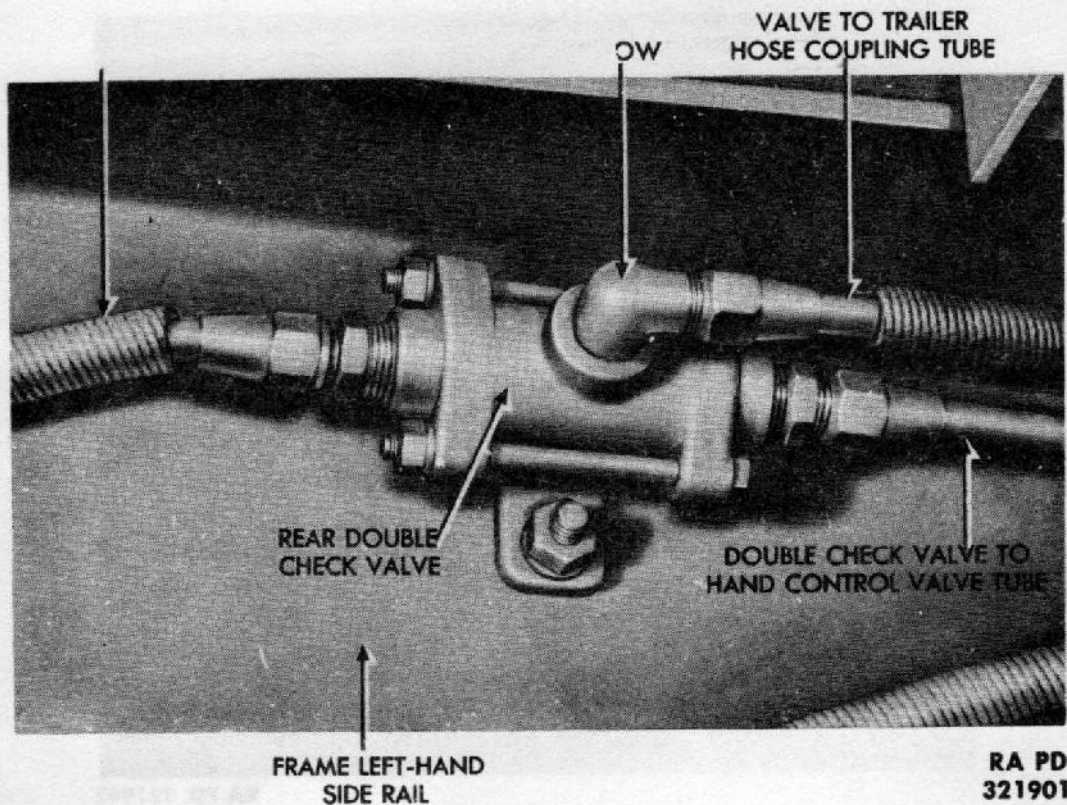

Figure 110 — Rear Double Check Valve
(1) **DESCRIPTION** (fig. 110). Two double check valves are attached to left-hand frame side rail, opposite transmission and transfer case respectively. These valves consist of a free-moving piston in a cylinder. The cylinder opens into the tube fittings at each end and at the center. When the piston is at either end of the cylinder, free air enters the cylinder at the opposite end and passes out through fitting at center of cylinder. Pressure from the operation of the foot control valve forces back piston of the front valve. This permits air to pass to the relay valve to apply rear brakes. Air also passes to a second relay valve and drives its piston backward. This permits air to pass to rear trailer connections to operate trailer brakes.
b. Removal (fig. 110). Disconnect the three air tubes from fittings at each end of valve and from elbow at center. Remove the two nuts, lock washers, and bolts which secure valves to frame side rail.
c. Installation (fig. 110). Position valve to frame side rail. Install the two bolts, lock washers, and nuts which secure valve to frame. Connect air tube to fitting at each end of valve. Connect air tube to elbow at center of valve. In case of question as to where to connect tubes, refer to system diagram (fig. 136). Start engine, and build up air pressure. Check connections for leakage. Test operation of brakes. Leaks can be detected by applying soapy water to connections. If leak is present, bubble will be formed. Absence of leaks and proper functioning of brakes indicate proper installation.